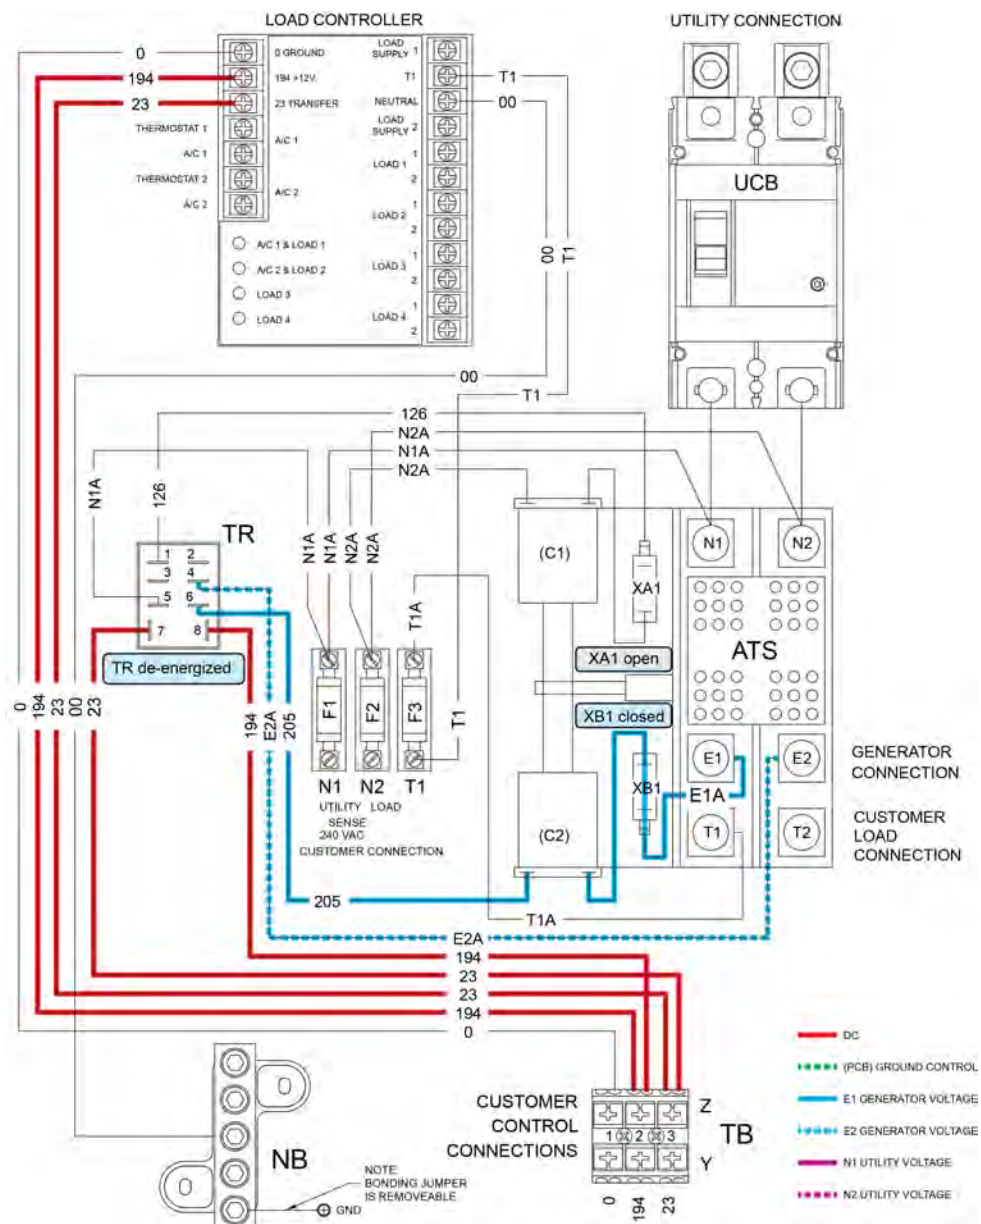

Figure 3-46. Utility Source Voltage Failure
If Utility source voltage drops below 65% of nominal voltage for five (5) seconds, the controller will initiate engine start. After the generator starts, a five (5) second engine warm-up timer is initiated. During this warm-up the generator is running at rated frequency and voltage. **Figure 3-46** is a schematic representation of the transfer switch with the Generator running with voltage available to the transfer switch.